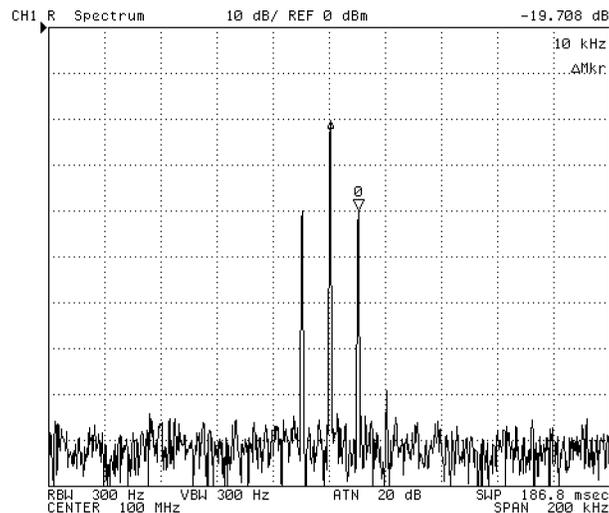

Figure 10-18. Modulating Frequency of AM Signal
4. Press **Search** SEARCH: PEAK NEXT PEAK to search for a sideband. The offset value from the carrier is displayed as the marker sweep parameter value shown in Figure 10-18. This value is the modulation frequency.
The Δ marker shows that the sideband amplitude value relative to the carrier is -19.708 dB (see Figure 10-18). The modulation index (m) can be derived from the following equation:
where ΔMkr is the Δ marker value shown in Figure 10-18.